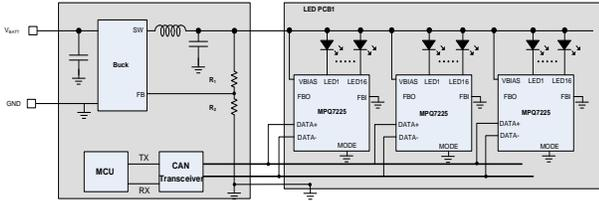

Figure 18: Application Circuit without AFC™
The FBI, FBO, and MODE pins are related to AFC™. If AFC™ is not used, float the FBO pin, then connect FBI and MODE to GND (see Figure 18).
If the MPQ7225 and DC/DC converter are on the same board, or there is a connected FBO wire condition, the resistor network can be connected following Figure 18. Then the FB resistors can be estimated with Equation (4):